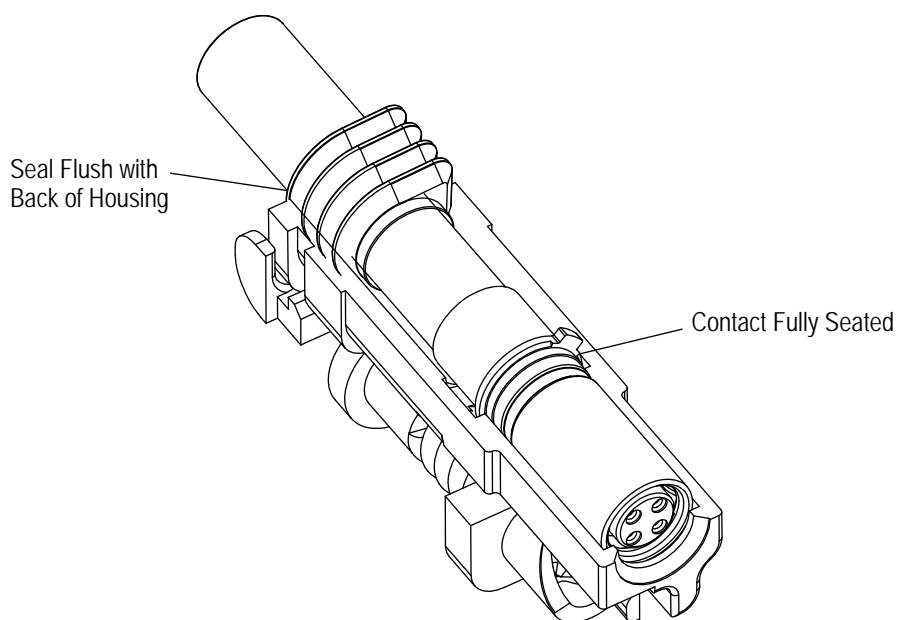

Figure 4
2. Install the socket contact in the plug assembly until the socket shell snaps in place. See Figure 4.